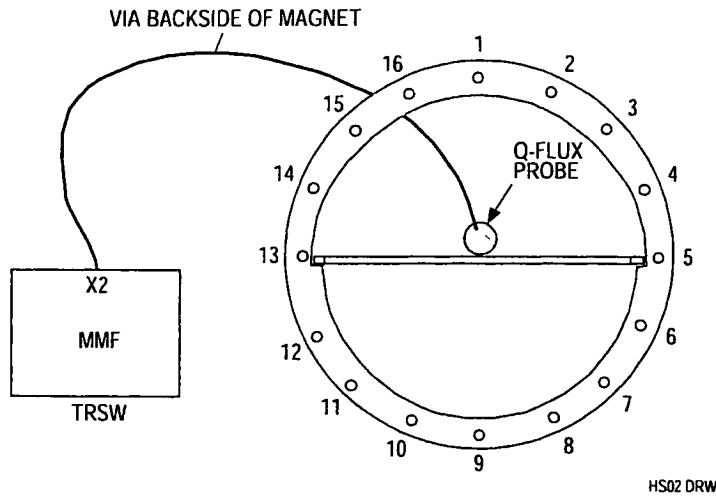

Figure 30 Connection of the Quadrature flux probe (Front View)
17. Connect a cable between tune A at connector MMFX2 and the quadrature flux probe. See Figure 30.
2. Remove both tune cable MMFX2 and MMFX3 and connect a cable between MMFX2 and the quadrature flux probe. See Figure 30.